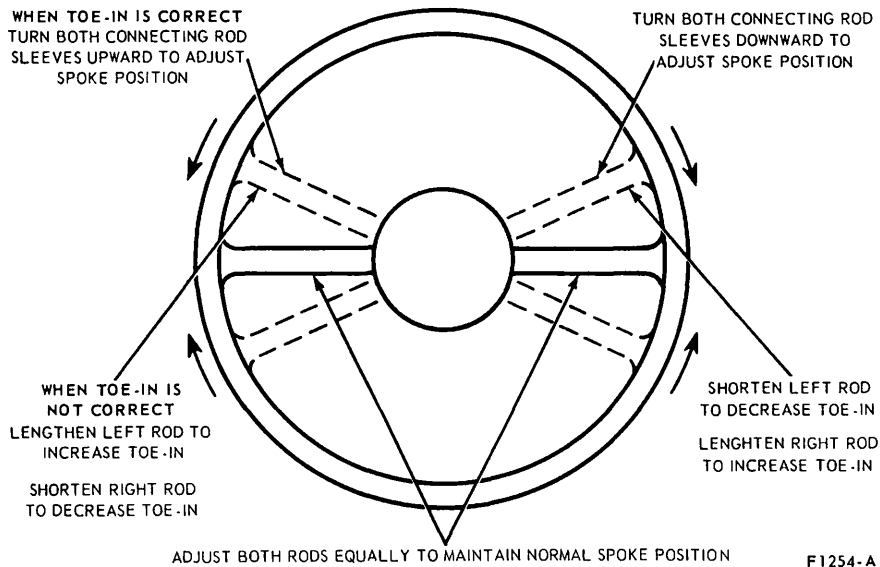

FIG. 11—Toe-In and Steering Wheel Spoke Adjustments—Comet, Falcon, and Fairlane
spoke alignment (Figs. 11 and 12).
3. Recheck toe-in and steering wheel spoke alignment. If toe-in is correct and the steering wheel spokes are still not in their normal position, turn both connecting rod sleeves upward or downward the same number of turns to move the steering wheel spokes (Fig. 11 and 12).